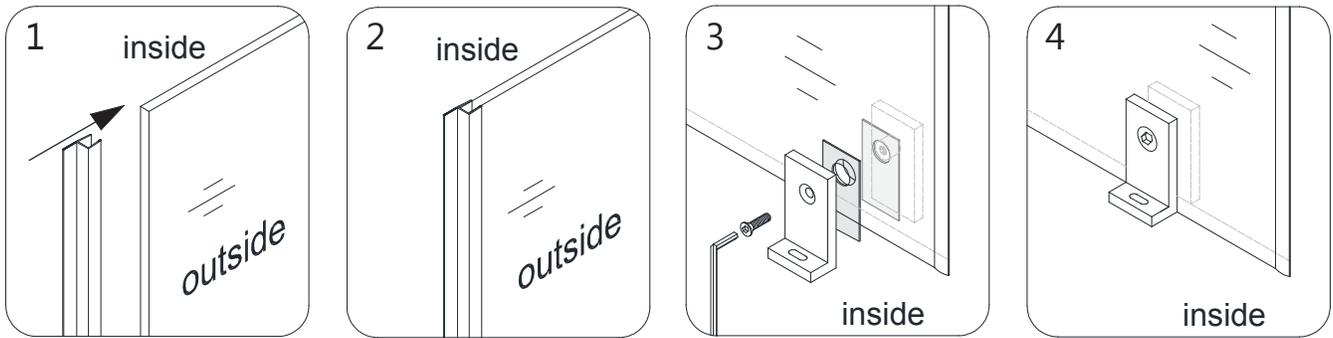

Fig 3
3. Press the **Anti-Water Strip (inline) (#19)** onto the vertical edge of the **Panel Glass (#11)**. (This will protect the edge of the panel glass and allow for proper spacing with the door glass). Attach the **Bottom Bracket (#18)** through the bottom hole of the **Panel Glass (#11)**. (**Fig 3**)